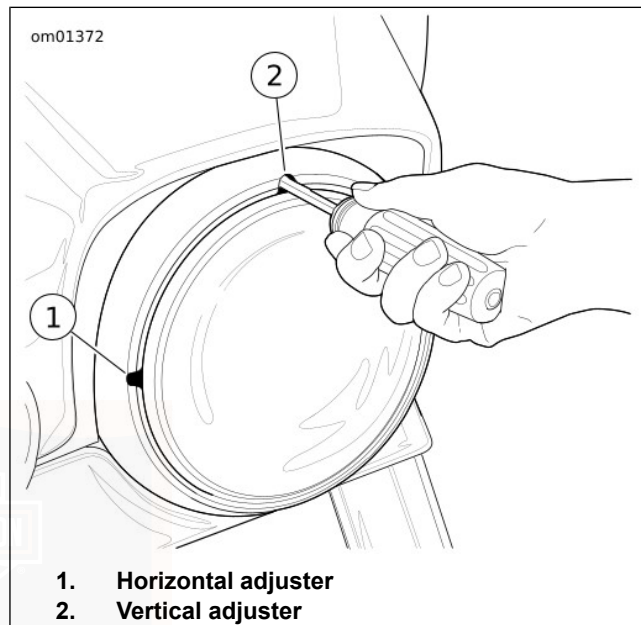

Figure 64. Headlamp Adjusters (typical)
1. See Figure 64. Using adjuster slots in trim ring, insert Phillips screwdriver between headlamp trim ring and rubber gasket.